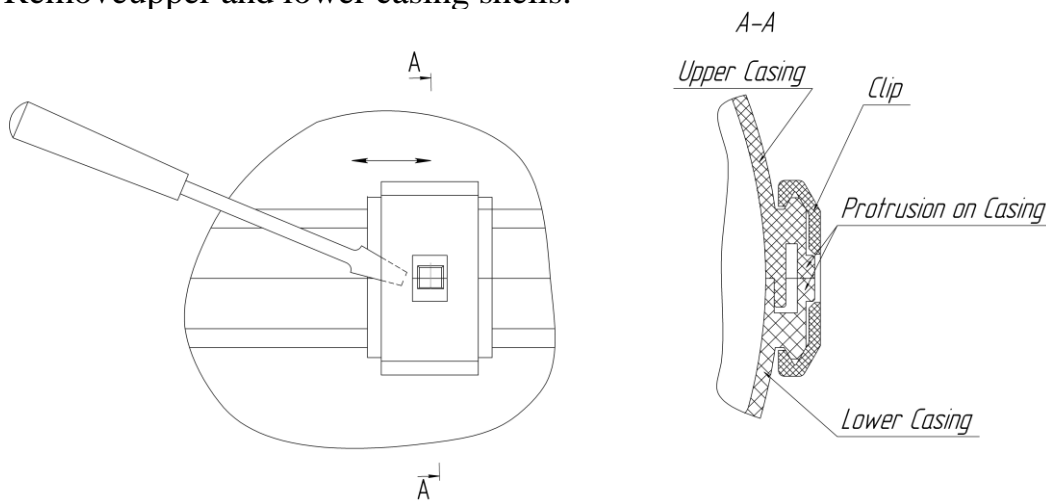

Fig.1- Removal of clips from casing.
- a) Remove clips. To remove clip, use screwdriver (with a thin tip) to pry the clip out and slide it left or right for full release (Fig. 1);
- remove upper and lower casing shells (Fig.1);